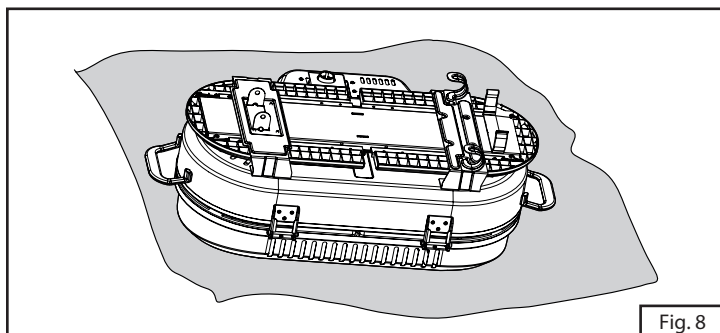

Fig. 8
5. Turn over the grill and place onto a soft surface. (Fig. 8)